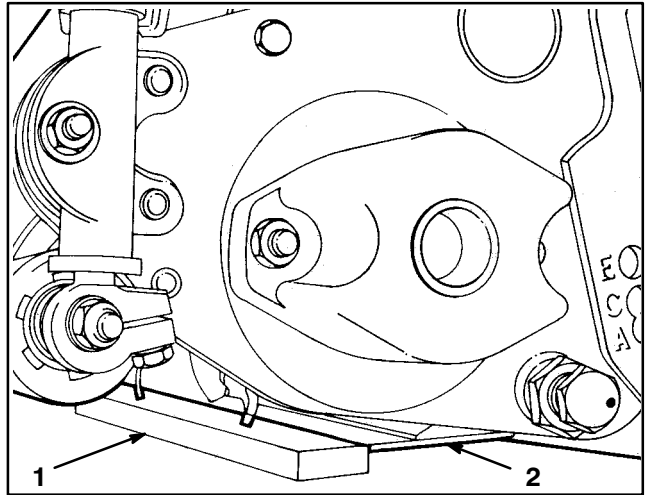

Figure 5
6. Position a 1/4 inch or thicker plate under the reel blades and against the front face of the bed-knife (Fig. 5).